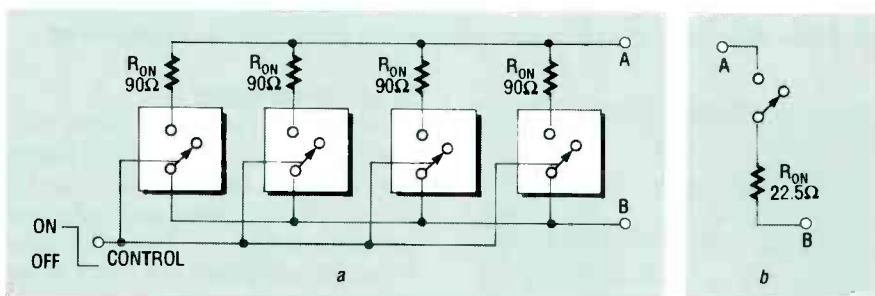

FIG. 11—BY PARALLELING FOUR SPST SWITCHES, the  $R_{ON}$  resistance can be reduced to only 22.5 ohms.
4. Each 4066B bilateral switch has a typical 90-ohm  $R_{ON}$  resistance. Figure 11 shows how four standard switch elements can be wired in parallel to make a single switch having only a 22.5-ohm  $R_{ON}$  resistance.